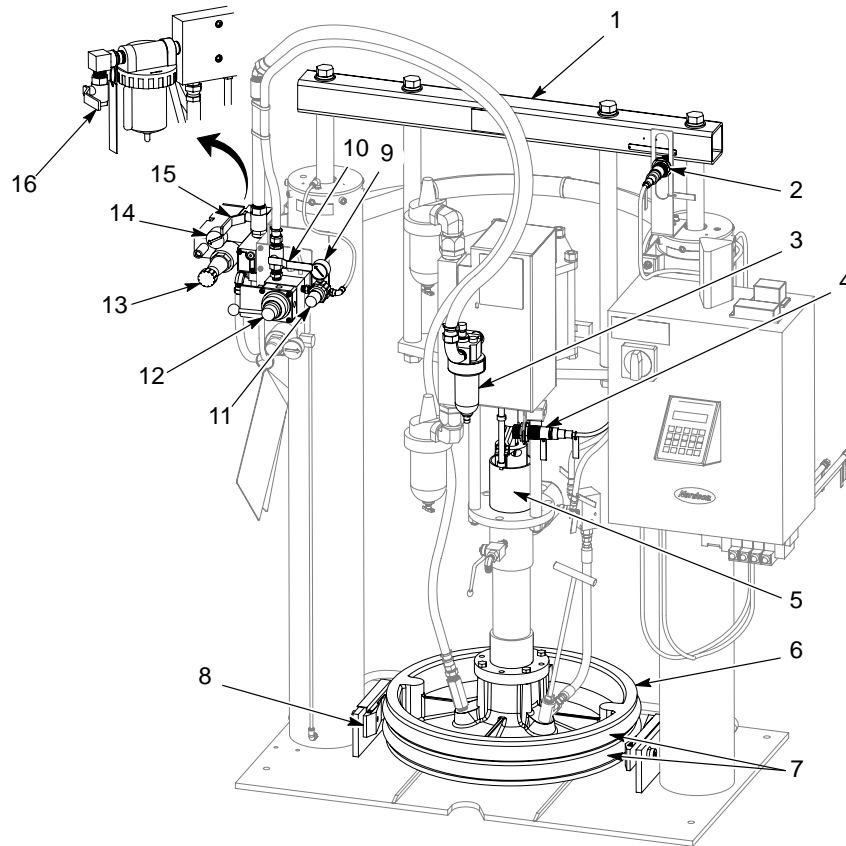

Figure 4 Installation Components
3. See Figure 4. Turn the elevator control regulator (11) and the air motor regulator (13) all the way counter-clockwise to 0 bar/psi. Make sure that the main air supply valve (16) is closed.
See Figure 4.